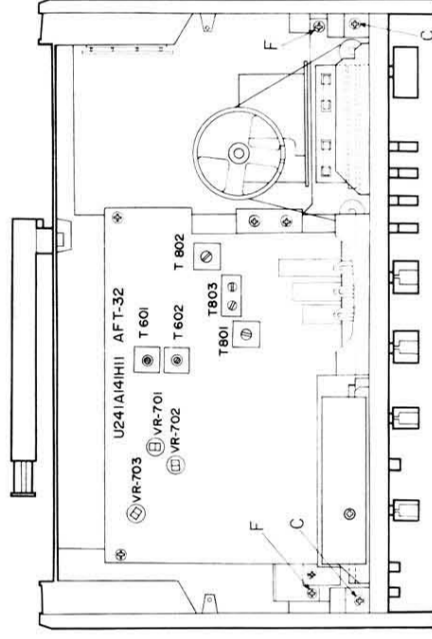

Fig. 2
- 1) Take out the two upper panel fixing screws indicated as C in Fig. 2.
- 2) Take off the two chassis-fixing screws (F in Fig. 2) of the tuner section.